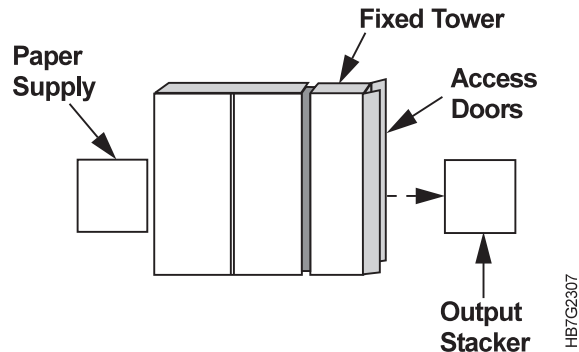

Figure 279. Right Side View of the InfoColor 70
- Close the fixed tower door on the right side of the machine and open the fixed tower back access doors, as shown in Figure 279.